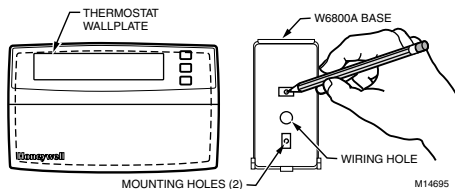

Fig. 3. Using base as mounting template.
2. Mark the holes for the mounting screws (provided) using the base as a template. See Fig. 3.